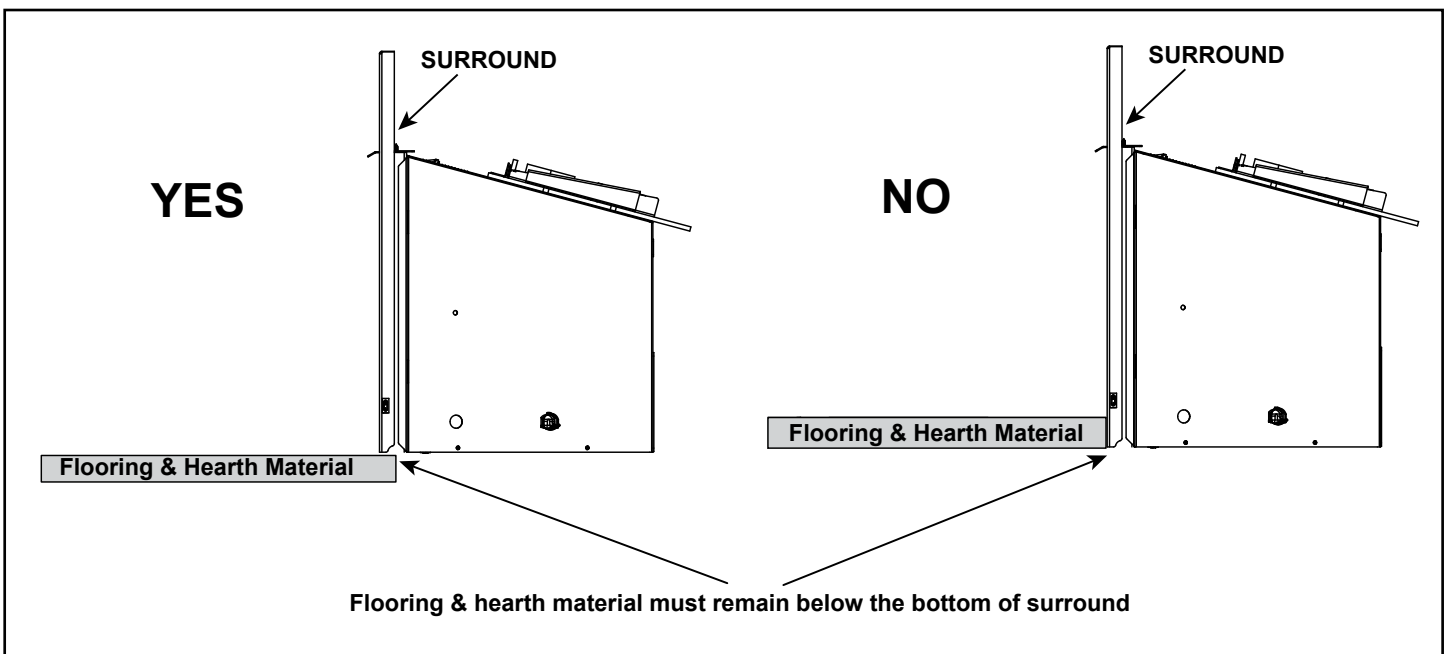

Figure 8.5 Flooring & Hearth Material
- All flooring and hearth material must remain below the bottom of the surround. See Figure 8.5.